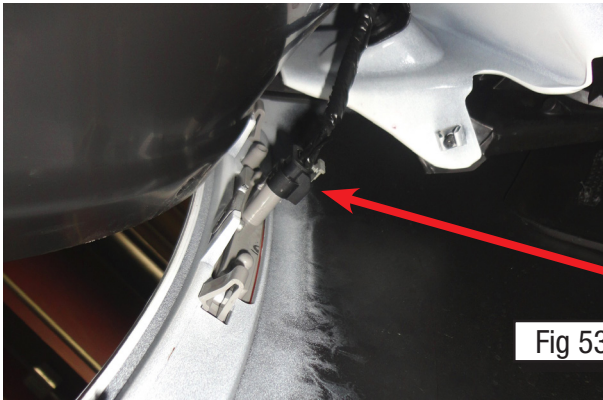

Fig 53.
60. Plug the wire harness in for each side marker light. (Fig. 53).